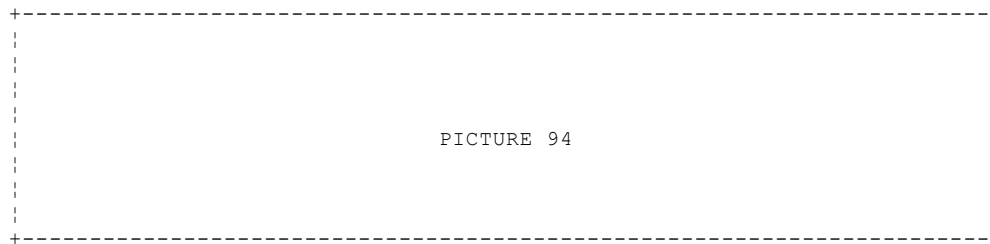

Figure 100. Electronic Distribution Using Gather/2 and NVBridge/2
- Two electronic software distribution tools (see Figure 100):